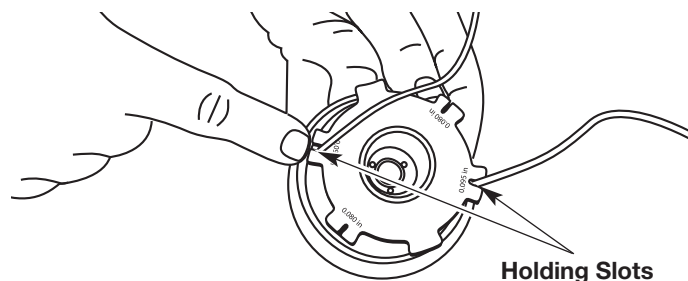

Fig. 38
- Insert the ends of the line into the two holding slots (Fig. 38).